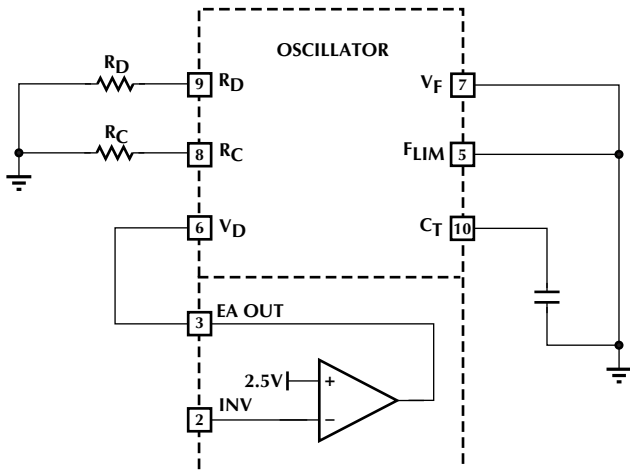

Figure 2. Variable Off Time, Constant On Time Oscillator
Refer to Figure 2. When using a variable off time control, V_D is tied to the output of the error amplifier. Off time is given by equation (1). The $16\mu A$ current sink prevents the off time from becoming infinite, thereby providing an upper limit to T_{OFF} of